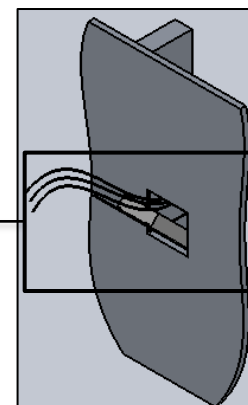

FIG. 18 - DRIVER PLATE ASSEMBLY
9. Slide DRIVER PLATE into the box with the DRIVER facing rearward as shown in FIG. 18. As you slide the plate in, make sure you pull the BUILDING SUPPLY connections through the large hole in the DRIVER PLATE and other wires will already be through center hole.